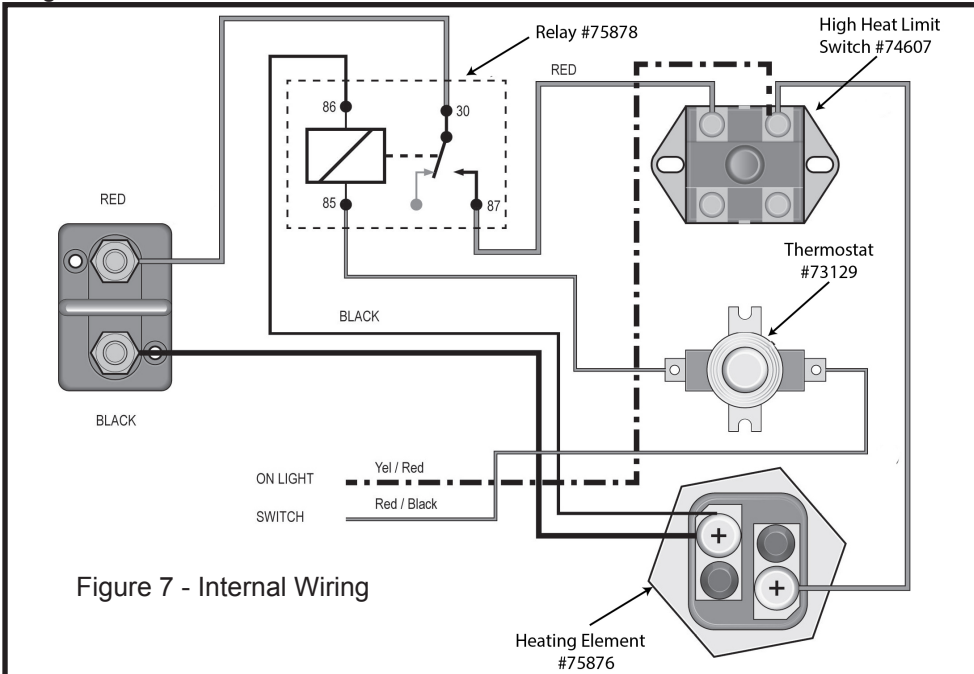

Figure 7 - Internal Wiring
The following service items are available for this Water Heater from Whale® (Figure 7).
**NOTE:** Figure 7 depicts the internal wiring of this Water Heater. For advice on servicing any of the highlighted components please contact Whale® Support (Section 13) or a marine electrician.